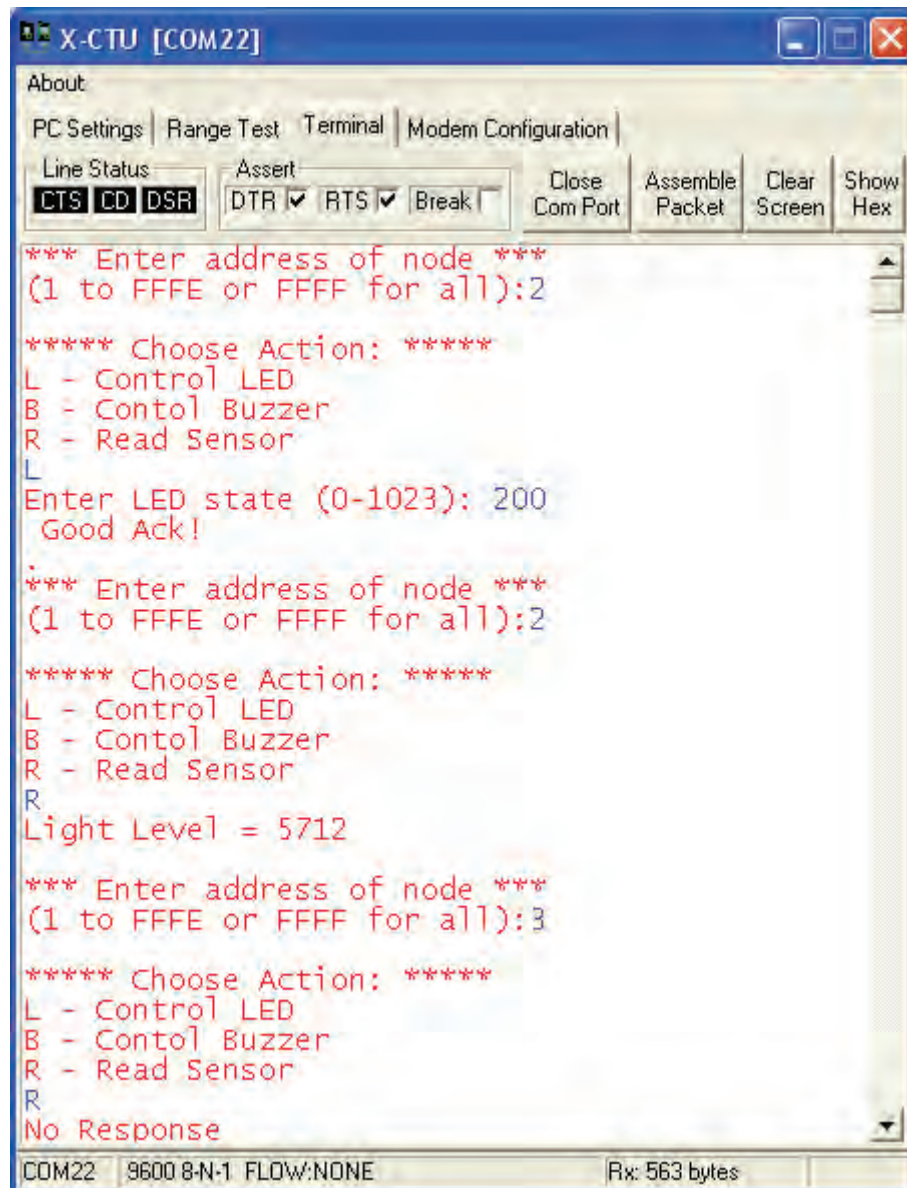

Figure 5-10: Manual Polling Base Terminal
- ✓ Open a terminal program (X-CTU or other) on the PC for communications with the Base node and respond to prompts as shown in Figure 5-10. If you used F11 to download your code, you may reset the Propeller to catch initial messages.